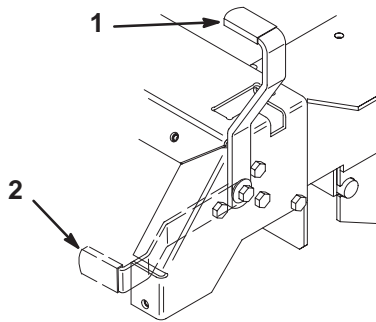

Figure 5
2. Pull back and up on the parking brake lever to set the parking brake (Fig. 5). The parking brake lever should stay firmly in the Engaged position.
Push forward and down on the parking brake lever to release the parking brake (Fig. 5).